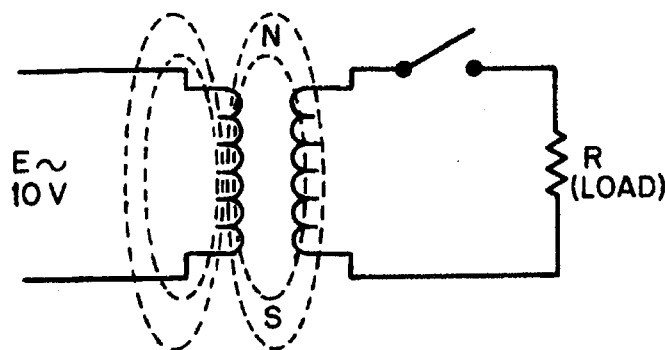

Figure 5-8.—Transformer under no-load conditions.
A no-load condition is said to exist when a voltage is applied to the primary, but no load is connected to the secondary, as illustrated by figure 5-8. Because of the open switch, there is no current flowing in the secondary winding. With the switch open and an ac voltage applied to the primary, there is, however, a very small amount of current called **EXCITING CURRENT** flowing in the primary. Essentially, what the exciting current does is "excite" the coil of the primary to create a magnetic field. The amount of exciting current is determined by three factors: (1) the amount of voltage applied (E_a), (2) the resistance (R) of the primary coil's wire and core losses, and (3) the X_L which is dependent on the frequency of the exciting current. These last two factors are controlled by transformer design.
To visualize how a voltage is induced into the secondary winding of a transformer, again refer to figure 5-8. As the exciting current flows through the primary, magnetic lines of force are generated. During the time current is increasing in the primary, magnetic lines of force expand outward from the primary and cut the secondary. As you remember, a voltage is induced into a coil when magnetic lines cut across it. Therefore, the voltage across the primary causes a voltage to be induced across the secondary.